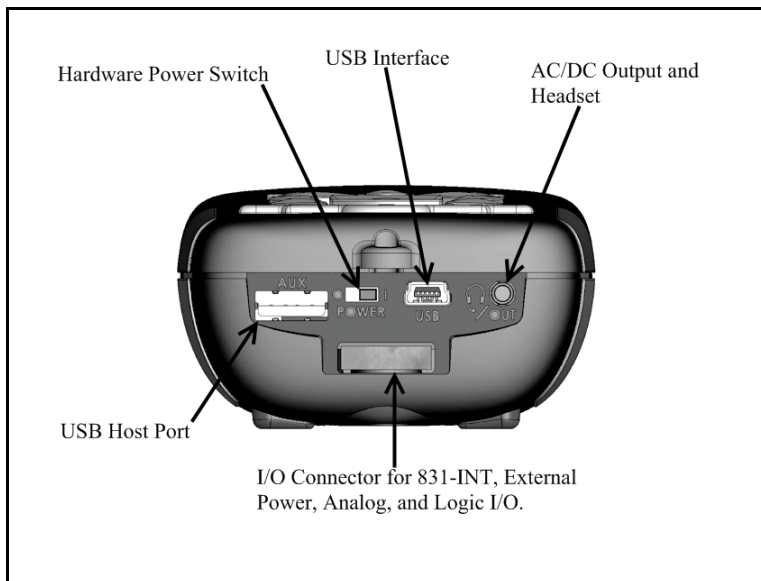
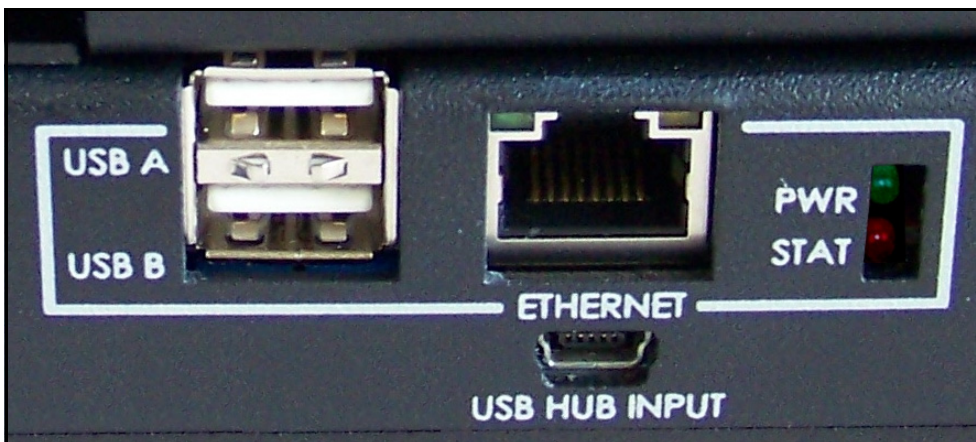

FIGURE B-1 Model 831 Bottom view
FIGURE B-2 Ethernet Status Lights and Ethernet PWR Light
- Step 3** Check that the CBL159 is connected from the Model 831 USB client port (marked USB on the Model 831, *Figure B-1*) to the 831-INT-ET SBC's USB port marked "USB B" (See *FIGURE B-2* and *Figure B-2*).
- Step 4** Verify that the CAT5e or CAT6 Ethernet cable is attached to the network router and also to the 831-INT-ET Ethernet connector. (See *Figure B-2*.) The green LED on the Ethernet connector should be on; the yellow LED will blink with network connectivity.
- Step 7** If the 831-INT-ET and Model 831 power up, but the SBC green PWR light (*FIGURE B-2**Figure B-2*) on the 831-INT-ET remains off:
- Make sure the CBL159 USB cable is connected from the Model 831 USB Host port (marked AUX on the Model 831, *Figure B-1*) to the 831-INT USB hub port (marked USB HUB INPUT, *FIGURE 2-4*).